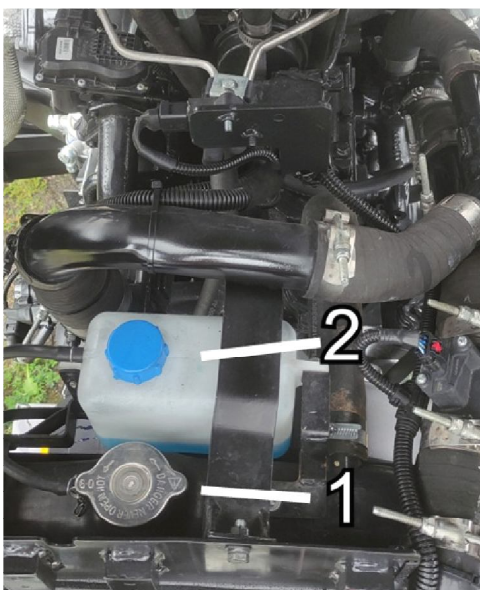

Fig. 5.3.8. Cooling system.
With the engine cold, remove the radiator filler cap (1 - Fig. 5.3.8) and check that the coolant level is with the bottom of the filler neck. Top up, as necessary.
- remove the radiator filler cap (1 - Fig. 5.3.8),